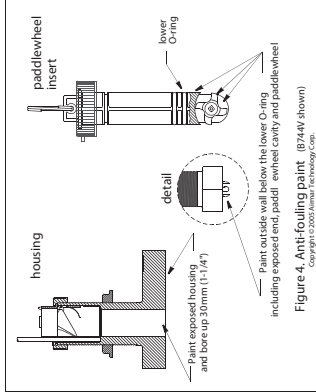

Figure 4. Anti-fouling paint (B744V shown)
- B744V/VL** —Paint the following surfaces (Figure 4).